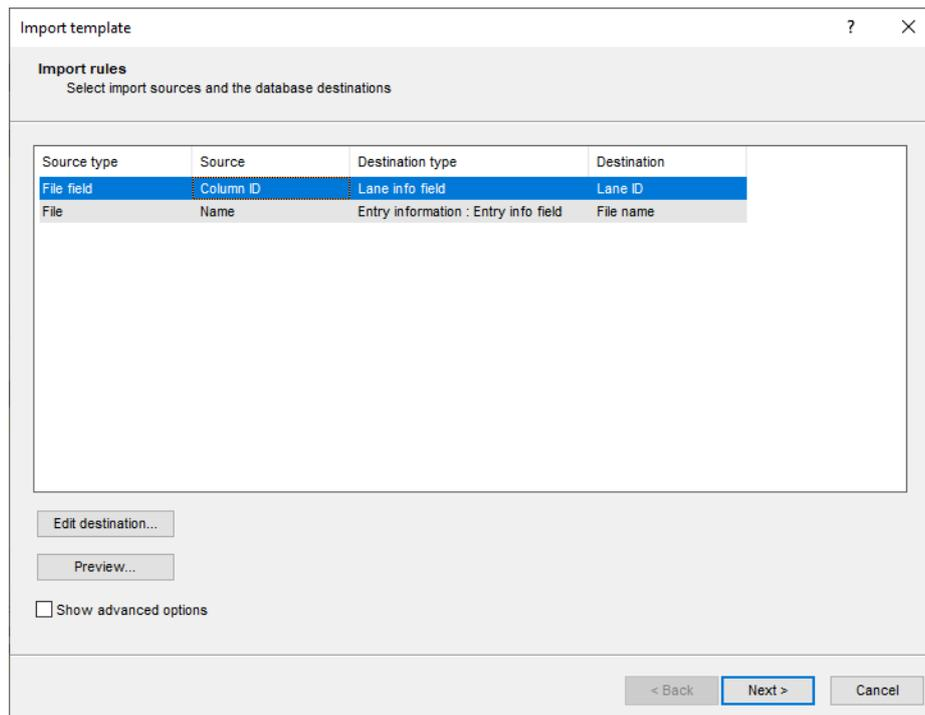

Figure 12: Import template.
4. Specify a *destination* for one or more selected rows by pressing the **<Edit destination>** button or by double-clicking (see Figure 12 for an example).